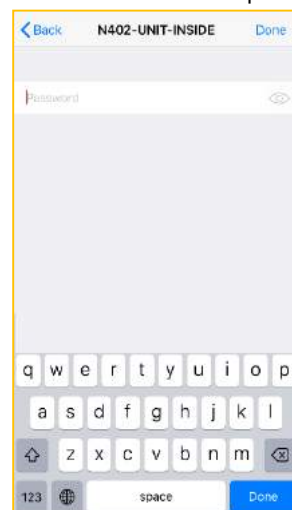

Figure 8
10.2.4.1. Select the name of your WiFi network from the list of available connections and enter the password (Fig. 8).